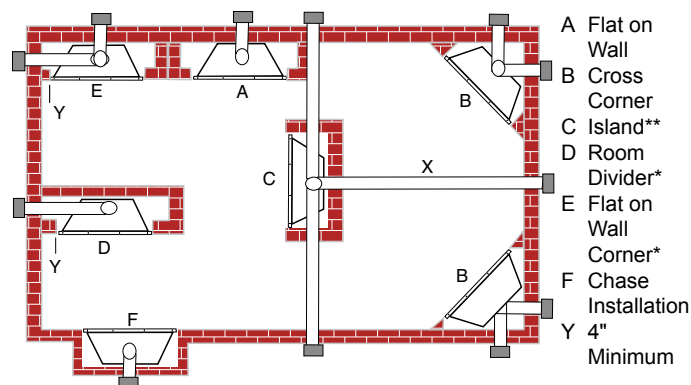

Figure 3 - Locating Gas Fireplace
- This fireplace may be installed along a wall, across a corner, or use an exterior chase. Refer to *Figure 3* for suggested locations.